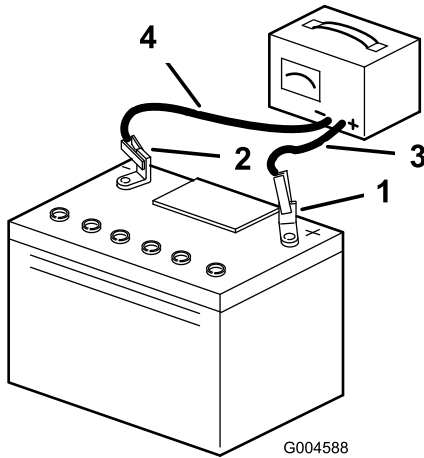

Figure 28
5. Disconnect the charger leads from the battery posts (Figure 28).